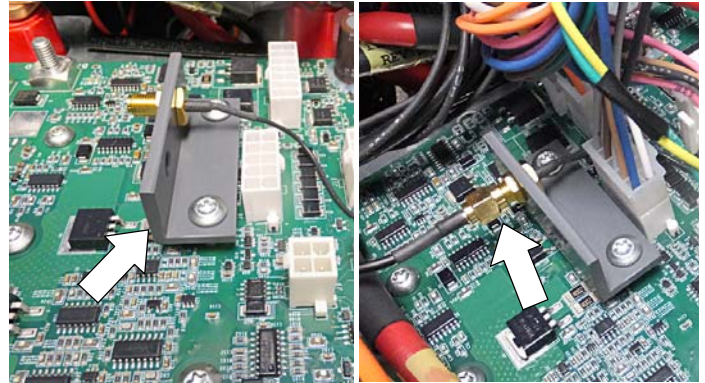

Fig. 8
10. Mount the new circuit board to the heat-sink panel using existing hardware (Figure 8). Reinstall the antenna bracket with two spacers as shown. Reconnect the antenna wire to the new control board.